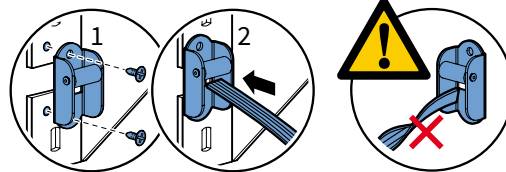

fig. 1.4 Hanging an awning with inside strap control
- Strap: use the cleft in the wall support (fig. 1.4).